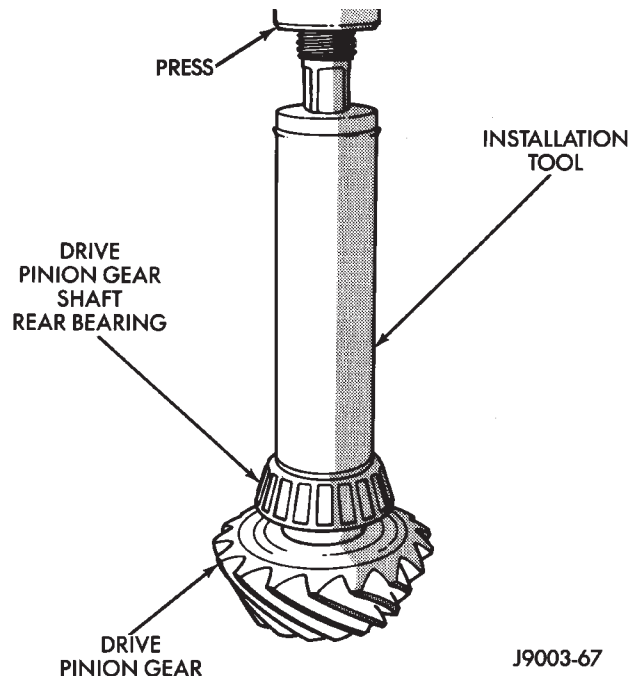

Fig. 55 Shaft Rear Bearing Installation
(7) Install the rear bearing and oil slinger, if equipped, on the pinion gear with Installer W-262 for 216 FBI axles, or C-3095-A for 248 FBI axles, (Fig. 55).